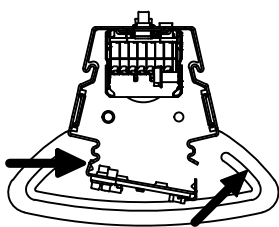

FIGURE 3: CONSEIL CARRIER
- 7) Snap on lens by angling one side in and then pivot the opposite end around to snap in the other side as shown in Fig 3.